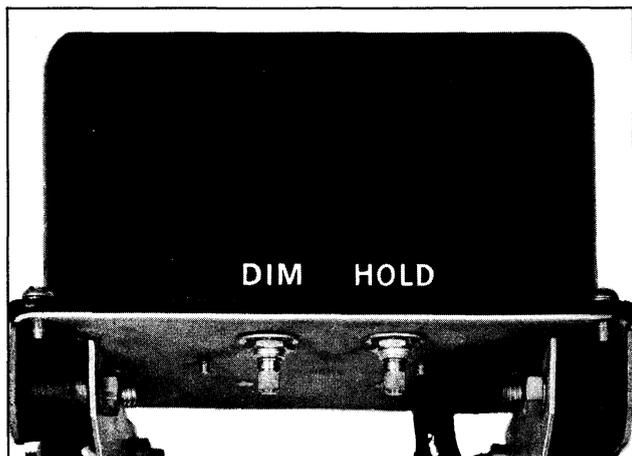

Fig. 13-66 Hold and Dim Adjustments
The Hold and Dim adjustments are knurled finger-tip controls located on the underside of the amplifier unit. The location of each is indicated by a stamp on the amplifier cover. (See Fig. 13-66) THE DIM SENSITIVITY ADJUSTMENT MUST NOT BE MADE UNTIL AFTER THE HOLD SENSITIVITY IS CORRECTLY ADJUSTED.
1. Rotate Dim control completely counter-clockwise. (See Fig. 13-66).